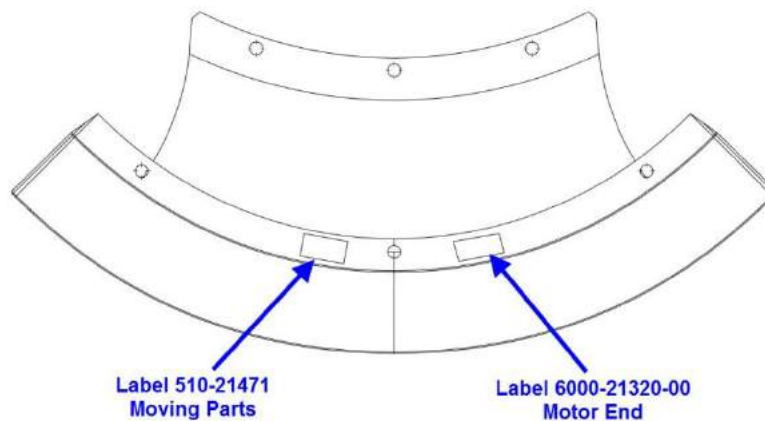

Figure 117: Label position for Entrance/Exit Panel on Motor End
10. Add labels 6000-21320-00 and 510-21471 to the one entrance/exit panel that covers the motor end of the upper frame. See Figure 117.